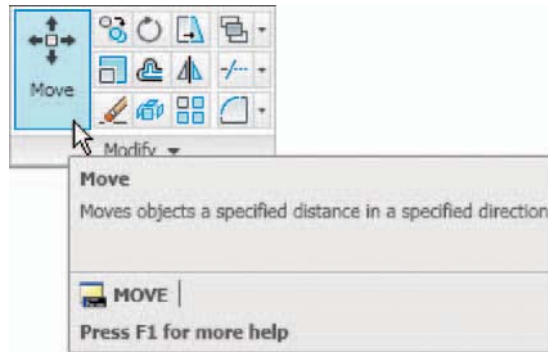

Fig. 5.24 The **Move** tool from the **Home/Modify** toolbar
2. Call **Move** – either *click* the **Move** tool icon in the **Home/Modify** panel (Fig. 5.24), *pick* **Move** from the **Modify** toolbar, *pick* **Move** from the **Modify** drop-down menu, or *enter* **m** or **move** at the command line, which shows: